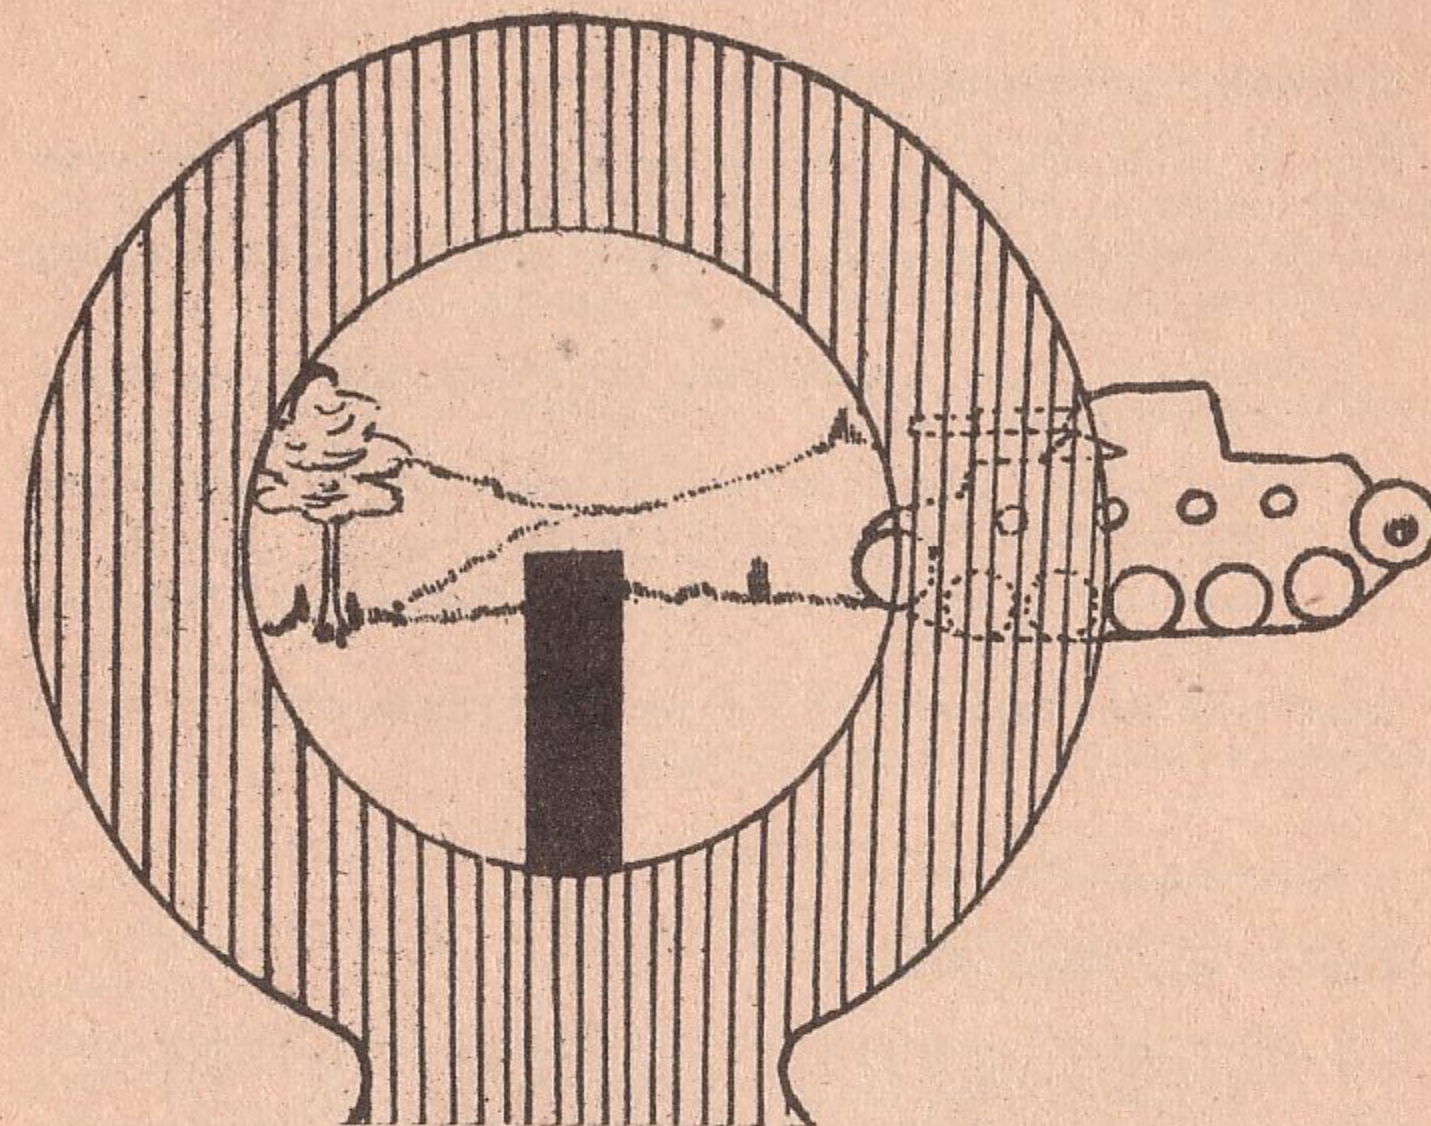

Fig. 5. Correct aim crossing tank 300 yards.
- ii. When moving directly across the front, aim one width from the centre of the target (see Fig. 5).